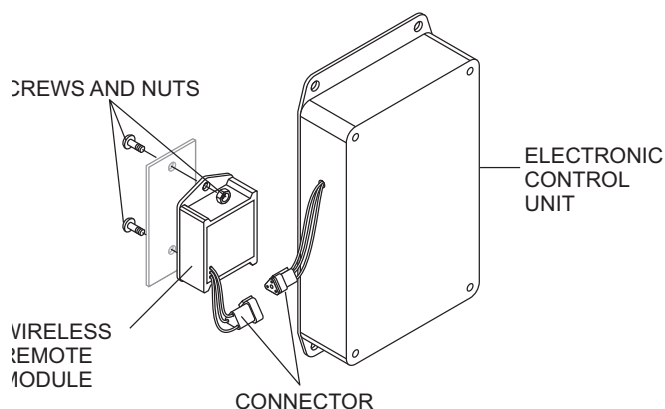

Figure 33. Installing Remote Control Module
3. Install the wireless remote module (Figure 33) with the 2 screws and nuts provided inside the control panel. Connect the 3-wire connector from the wireless remote module to the electronic control unit.